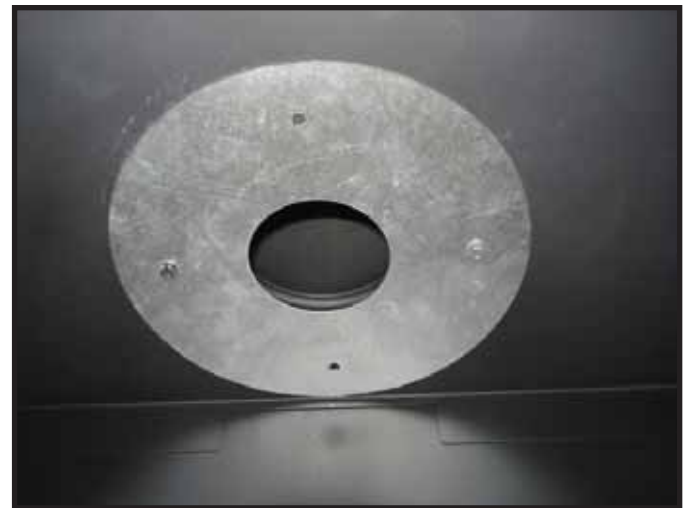

Figure 7.10 Exhaust Restrictor Installation
3. Use (2) 1/2" self-piercing screws to secure vent restrictor to firebox heat shield. See Figure 7.10.